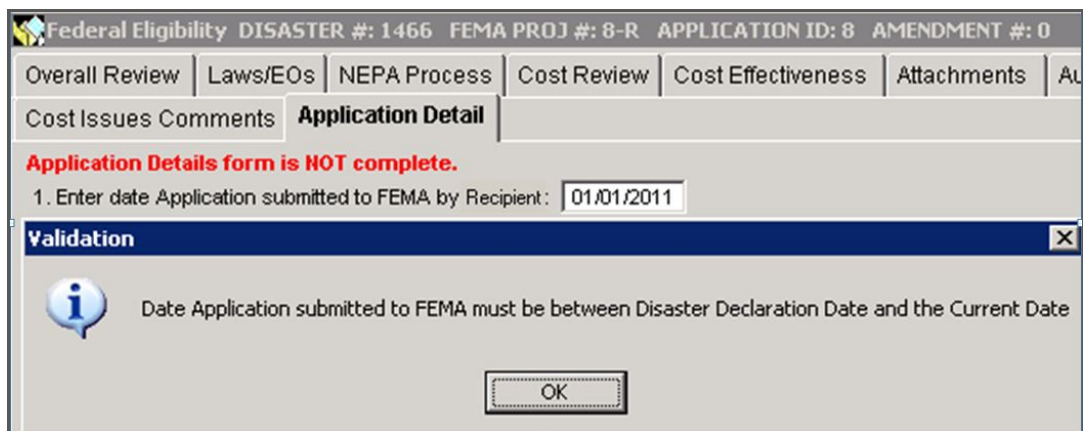

Figure 7-105: Validation error message – Incorrect date
8. Date entries are validated. The date entered must occur after the date of the disaster declaration and prior to or on the date of the data entry. If an inappropriate date is entered, the user receives the Validation message shown above when attempting to save or close the tab and the Application Detail tab will not be considered complete (Figure 7-105).